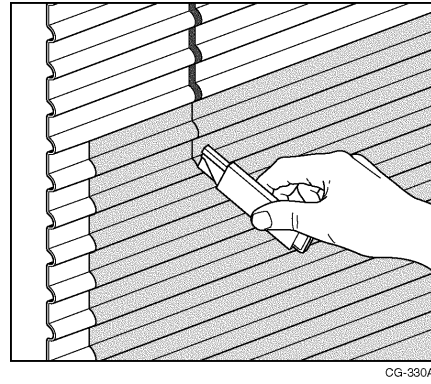

Figure 22 Slitting Body Seams
- a. Slit the film at all body seams with a razor blade or similar cutting tool. See Figure 22.